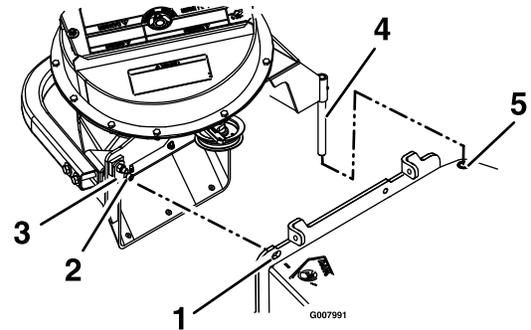

Figure 16
B. Mount the blower on the deck by inserting the mounting pin into the tube welded to the rear corner of the deck (see Figure 16).